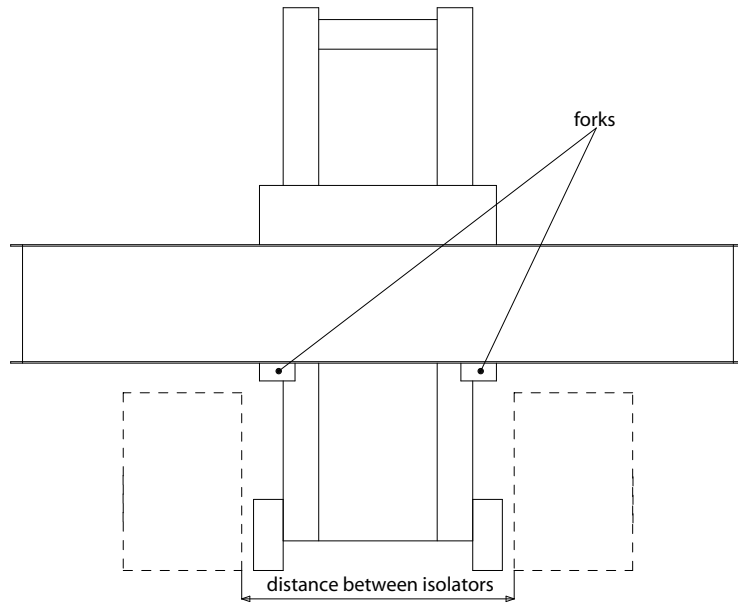

Fig. 2.4 Distance between forks
- 1) Raise the table on a fork-lift truck, ensuring that the fork distance is set such that the forks can pass between the isolators when the table is lowered into position – See Fig. 2.4.